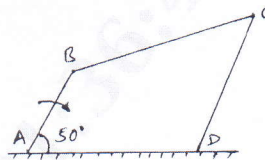

Fig.Q3
- 3 In a four bar mechanism ABCD, AD is fixed and crank AB rotates at 200 rpm in clockwise direction. [Refer Fig.Q3]. The dimensions of various links are as follows: